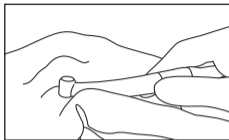

Fig. 9
- 3 Wipe the exterior of the handpiece clean using a cloth moistened with disinfectant or ethanol with a concentration of 60-90%. (Fig. 9)